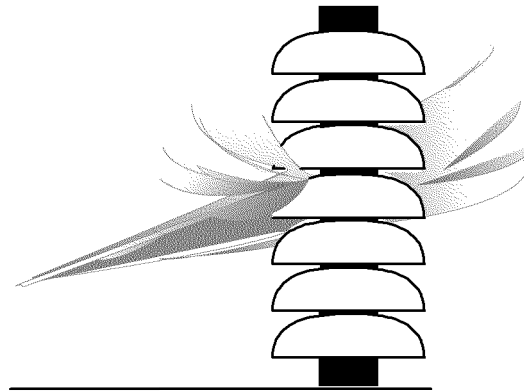

Figure 5-8
- D. In Figure 5-8 below, the angle of the water stream is nearly perpendicular to the insulator. While this is not the optimum angle, this angle is often the result of washing low-profile equipment or while elevated in an aerial lift truck. This angle cleans the insulator, but may not effectively clean the underside of the skirts and the neck area of the stack. Use a thorough wash and backwash when washing at these angles to ensure all contaminants are removed.